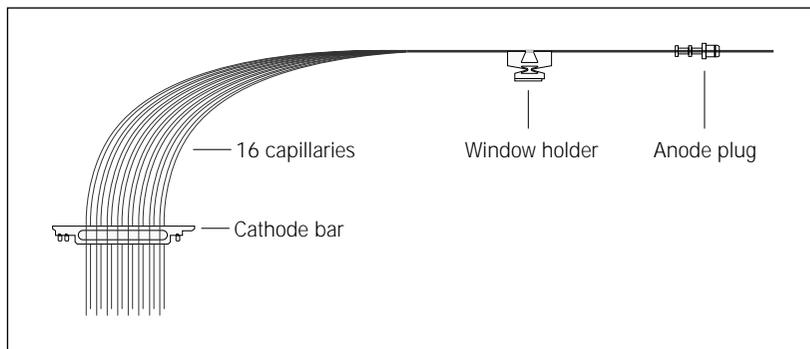

Figure 4-5. A capillary array.
Depending on your model, you can use up to six arrays containing 16 capillaries each. The structure of a capillary array is shown in figure 4-5.
1. Remove a capillary array from the instrument (section 4.5) or from the box by grasping the cathode bar (figure 4-5).
3. Remove the capillary array from its box by grasping the cathode bar (figure 4-5). Hold onto the cathode bar and let the rest of the array hang down in a straight line.